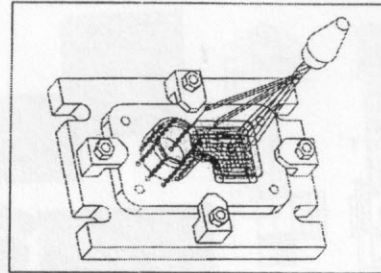

Fig 3.9 NC tool path generation and simulation
- ❖ Mechanical Engineering – *part design, assembly design, NC tool path (Fig 3.9), robot programming*